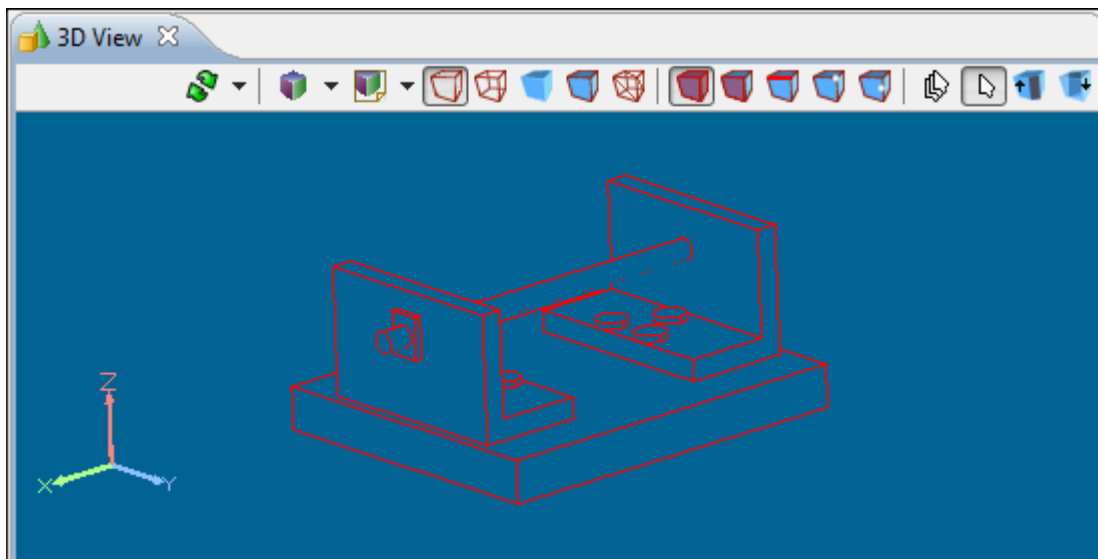

Figure 2. Wire frame without hidden lines view
- Click  button on the tool bar to view a wireframed 3D object, where lines (or segments of lines) covered by surfaces are not drawn (see Figure 2).